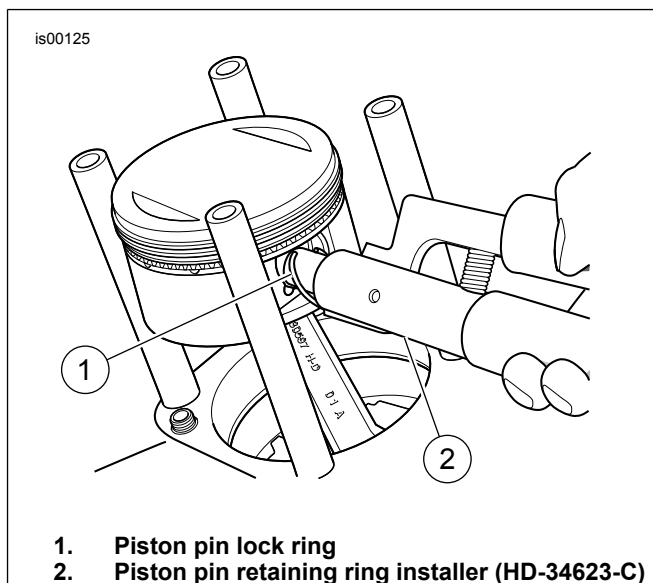

Figure 3. Seating Circlip
1. See Figure 3. Insert the circlip (4) onto the Piston Pin Retaining Ring Installer.